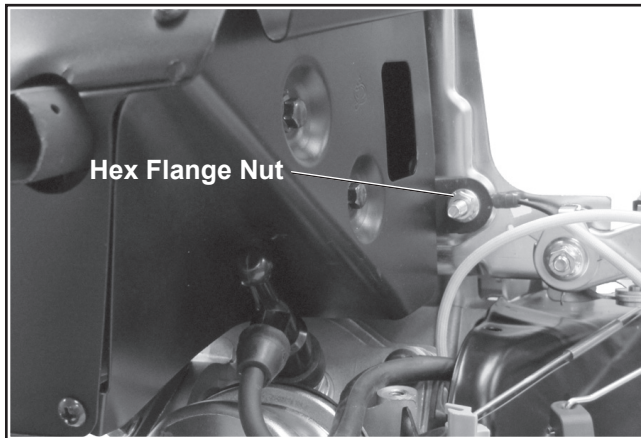

Figure 19. Remove Hex Flange Nut.
- Remove the hex nut, and remove the muffler. See Figure 19.